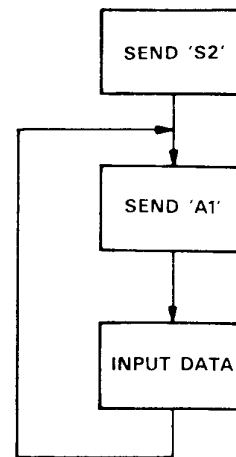

Figure 4-5. Flowchart for Programming SMOOTHING MAX (S2) and Continuous Data Readout on Channel A
3. Program controller (1) for maximum smoothing, and (2) to take data continuously from Channel A. See flowchart in Figure 4-5. A computer program (written in HPL for the HP 9825A Programmable Calculator) that implements this flowchart is provided in Figure 4-6; Figure 4-7 provides a program written in BASIC for the WILTRON 85 Controller.